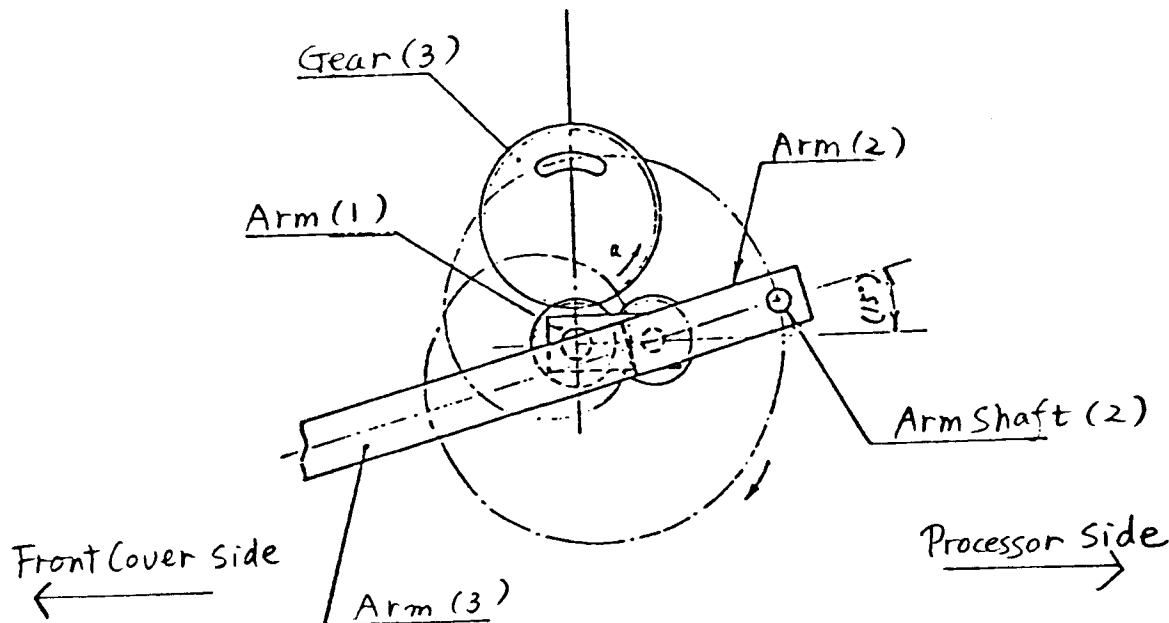

Fig. 4 Adjustment of Link
1. Rotate the drive shaft until Arm (1) faces the processor in very horizontal position, then hold the drive shaft at this position.
2. Loosen two retaining screws of Gear (3), and rotate the gear so that Arm (2) and Arm (3) form one straight bar. At this position, the angle between Arm (1) and Arm (2) is 15° .
3. Fasten Gear (3) at this position.
4. When suction cups fail to remove the bottom sheet, rotate Gear (3) slightly in "a" direction (See Fig. 4. The angle between Arm (1) and Arm (2) becomes larger.) in desirable amount. Fasten Gear (3) at the position.